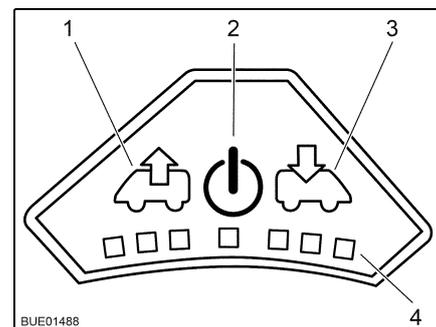

Fig. 51 Control panel for fan
- Press the On/Off button (Fig. 51,2). The fan runs in comfort mode (venting at slowest fan speed).
- To increase the fan speed: Press the Vent button (Fig. 51,1). The fan speed in the venting direction increases by one level. LEDs (Fig. 51,4) show the operating levels.
- To lower the fan speed: Press the Aerate button (Fig. 51,3). The fan speed decreases by one level.
- To increase the fan speed: Press the Aerate button (Fig. 51,3). The fan speed in the aerating direction increases by one step. LEDs (Fig. 51,4) show the operating levels.
- To lower the fan speed: Press the Vent button (Fig. 51,1). The fan speed decreases by one level.
- Press the On/Off button (Fig. 51,2). The fan stops, the LEDs go out.